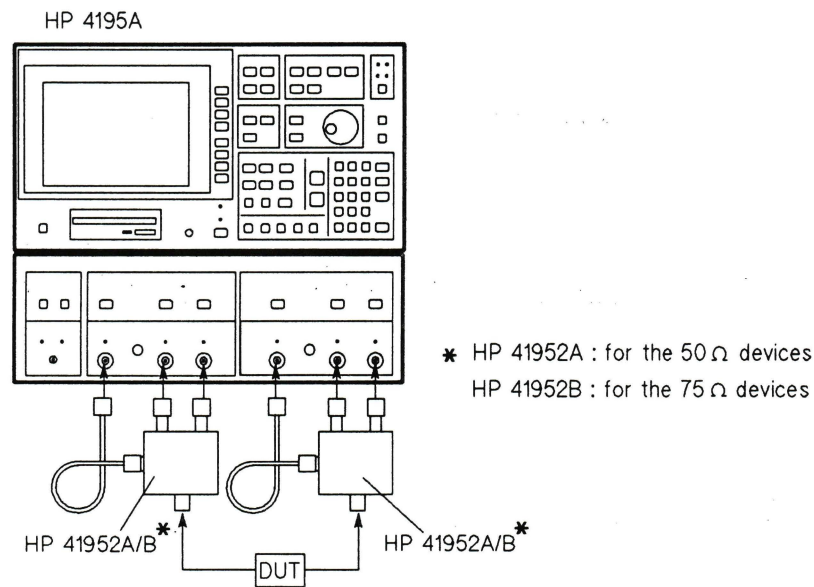

Figure 3-6. S-Parameter Configuration Setup Example
1. Connect two Transmission/Reflection Test Sets ( two HP 41952A/Bs ) to the 4195A's front panel output/input connectors as shown in Figure 3-6.